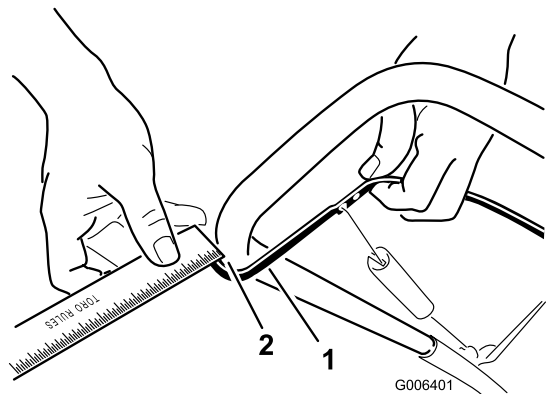

Figure 18
Note: Ensure that a 2 to 3 mm (1/16 to 1/8 inch) gap exists between the control bar and the handle (Figure 18).
Move the control bar back toward the handle to remove the slack in the control cable (Figure 18).
2. Move the Z-fitting to a higher or lower hole on the adjuster link as needed to obtain the 2 to 3 mm (1/16 to 1/8 inch) gap between the control bar and the handle (Figure 18).